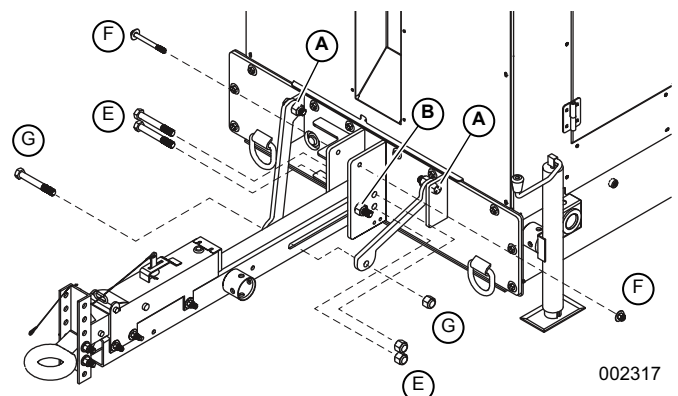

Figure 2-12. Install Fasteners
8. See **Figure 2-12**. Align the lower holes on the tongue braces with the slot in the tongue. Install the bolt with a **new** nylon lock nut (**G**). Tighten to 80-109 ft-lbs (108-148 Nm).